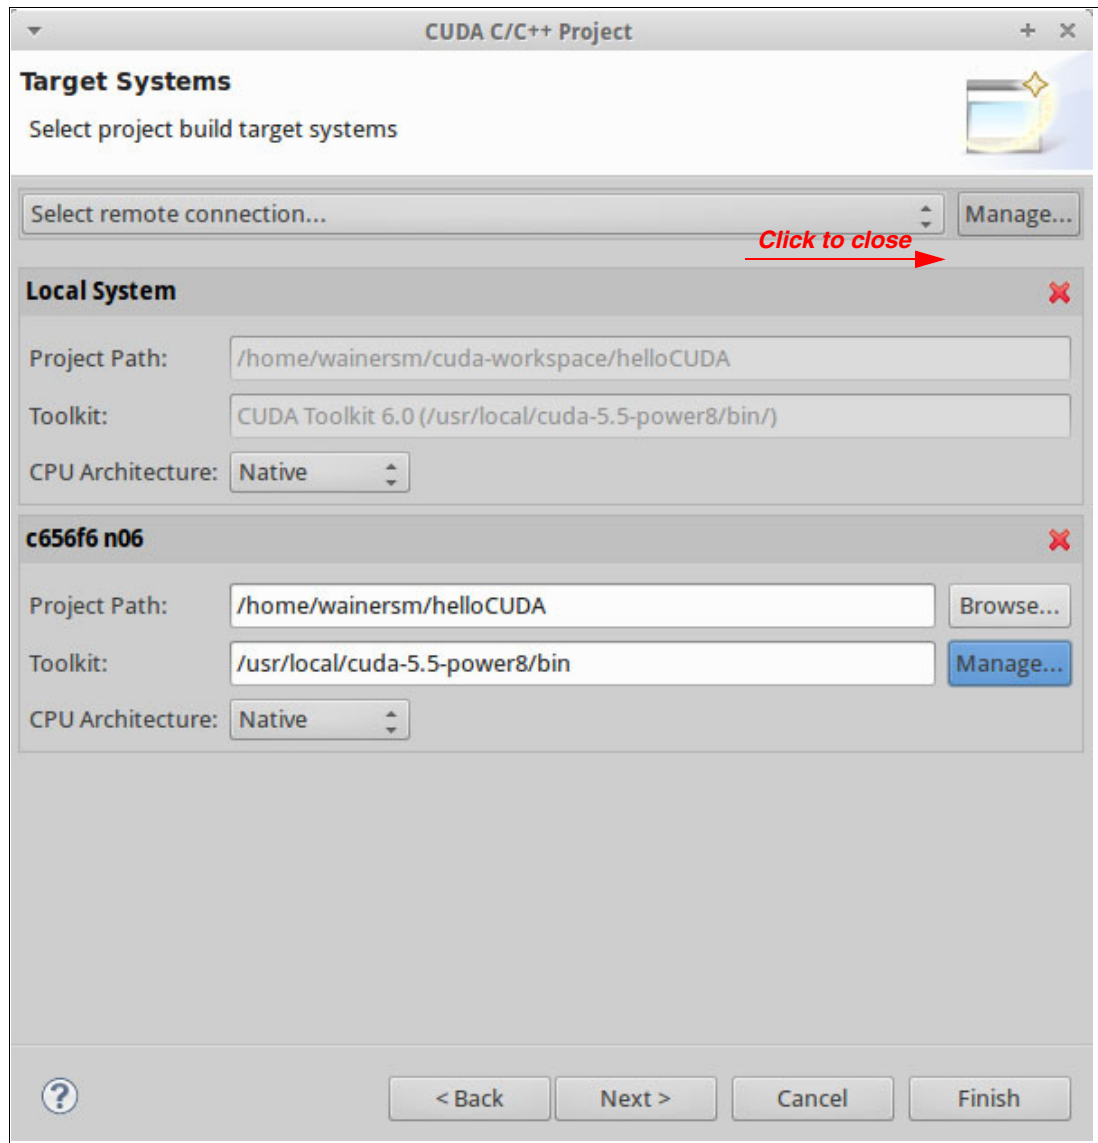

Figure 14 Target systems at the new CUDA C/C++ project window
5. Until now, the remote connection has been set properly along with a local one that exists by default. To avoid triggering builds locally, delete the local configuration as shown with the red arrow in Figure 14 on page 49.
The Eclipse CDT (C/C++ Development Tools) has full control over the build process of the project created in Figure 14. In simple terms, it generates several Makefiles from the project settings to build the source code on the remote side. It is possible to generate other kinds of projects, for instance, makefile or shell-script based, where the developer is in control of the construction process, but they are not covered in this publication.
Nsight uses preset options of the nvcc compiler from a location that was defined in the remote connection setup (see Figure 14 on page 49), and it chooses the gcc or the g++ compiler, which are in the system PATH variable.